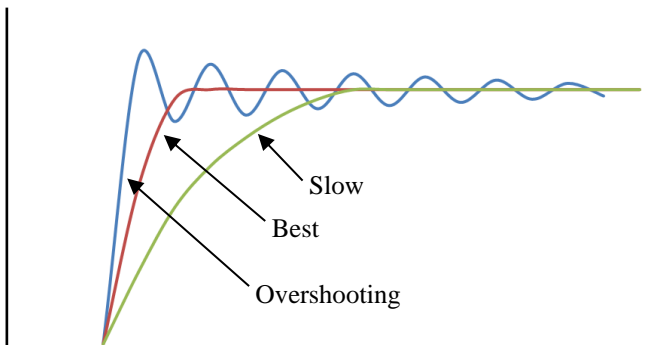
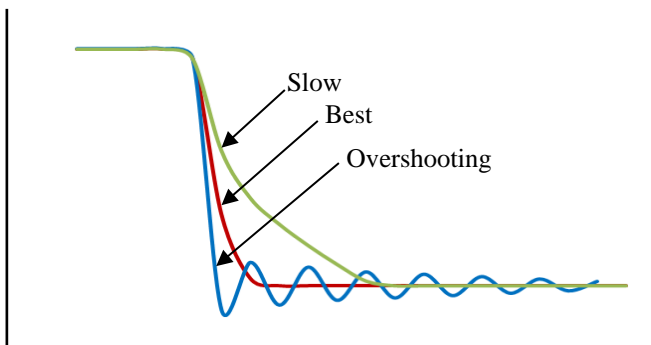

Figure 8. Rise Waveforms of VTEC
Figure 9. Fall Waveforms of VTEC
1. Hook up the power supply, TEC and thermistor. There are 2 solder pads in the upper right area on the edge for connecting the DC power supply voltages in the right polarity as indicated onto the board. Usually the power supply is set to 5V. There are also 2 solder pads in the center right area on the edge for connecting the TEC terminals in the right polarity as indicated onto the board. Connect the thermistor terminals to the board, there is no polarity requirement. On the top of the board, there is the switch bank SDNG, the second switch Delta TEMPSP is used to adjust the compensation network of temperature control loop by inputting a square wave disturbing signal in temperature input point, which enables the system to generate corresponding response waveform. At this time, observe the waveform change by oscilloscope, and adjust and optimize the compensation network of the temperature control loop so as to achieve the best waveform at the same time. Response waveform is achieved by measuring VTEC with oscilloscope, as shown in Figure 8 and Figure 9. The compensation network components consist of R_I , R_D , R_P , C_D and C_I , which will be adjusted by S2, S3, S4, S5 and S6 (When turning one of these switches to higher position, the corresponding value will be applied). These connections can be done by clipping or soldering on the pads, see Figure 1. Check the evaluation board connections, making sure that they are all correctly connected.